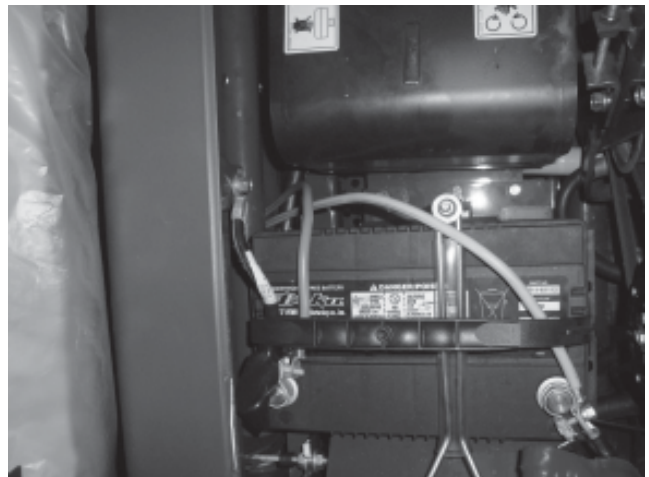

Figure 15
- 15.** Push wires under front seat support and route up to battery terminals, as shown in Figure 15. The yellow wire should be connected to positive terminal and blue wire to negative terminal.